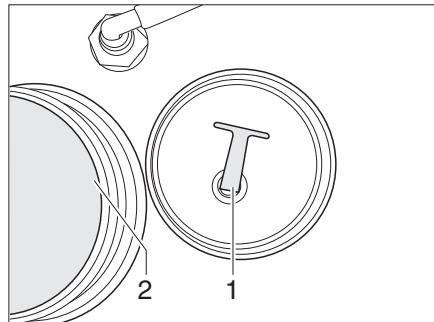

Fig. 138 Water tank
- Unscrew the cap (Fig. 138,2).
- Unscrew the cap (Fig. 138,2) on the water tank.
- Screw out the stopper (Fig. 138,1) from the drainage opening. The water drains off.